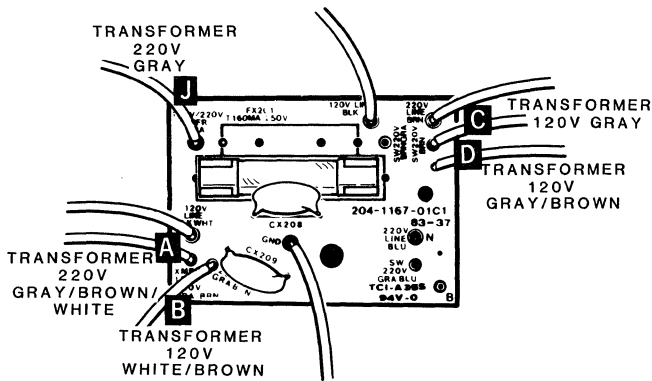

Figure 6.4
- Refer to Figure 6.4 and unsolder transformer leads **A**, **B**, **C**, and **D** from fuse board.